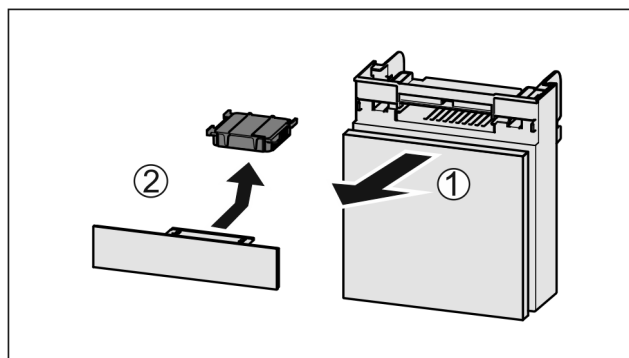

Fig. 129
- ▶ Pull out the compartment *Fig. 129 (1)*.
- ▶ Remove the carbon filter *Fig. 129 (2)*.